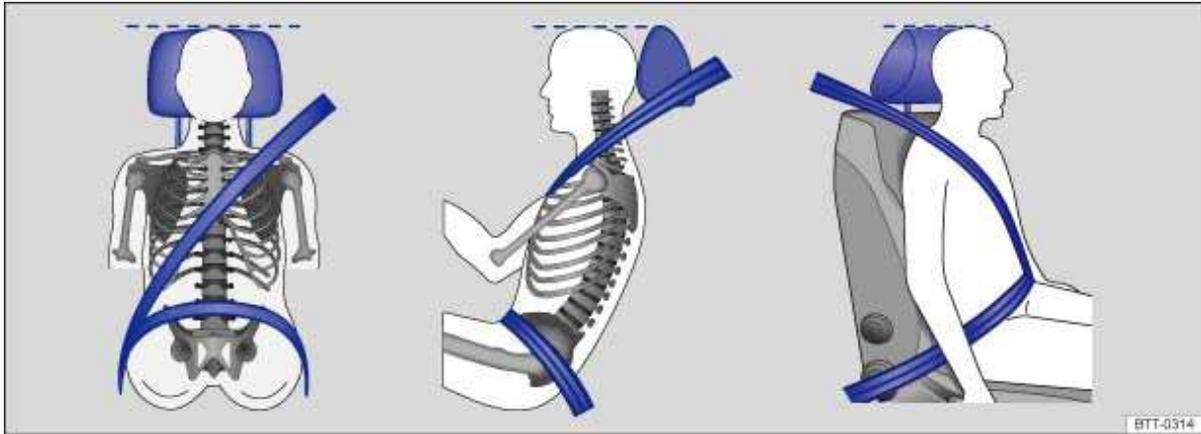

Fig. 65 Proper safety belt positioning and head restraint adjustment.
- The shoulder portion of the safety belt must always run over the center of the shoulder and never over the throat, over the arm, under the arm or behind the back ⇒ fig. 65.